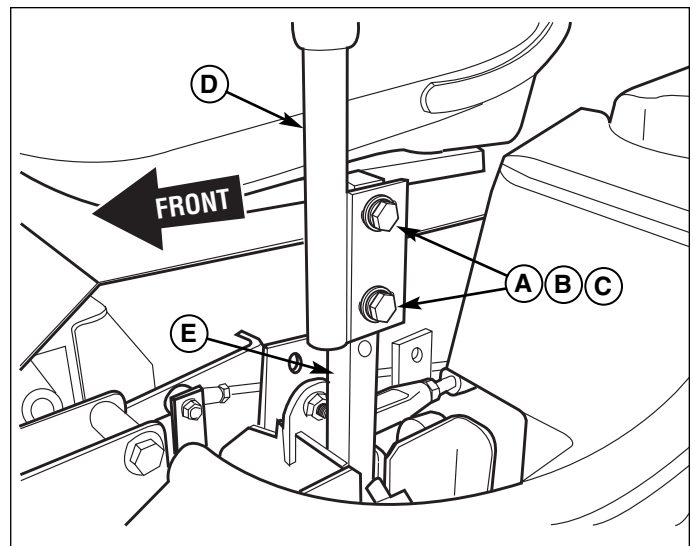

Figure 4. Install Control Levers
1. Mount the control levers (F, Figure 4) to the control lever base (E) using four 5/16-18 x 1" bolts, lockwashers, and washers.